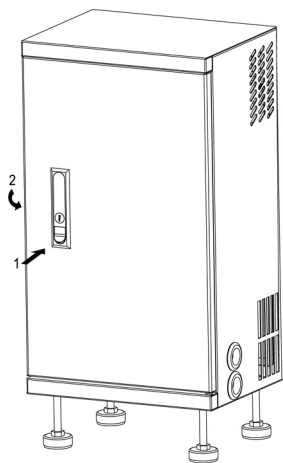

Figure 2-2 Open the Door Panel
- ◆ Press down the lock catch by the direction 1 as shown in Figure 2-2, open the door panel by the direction 2.